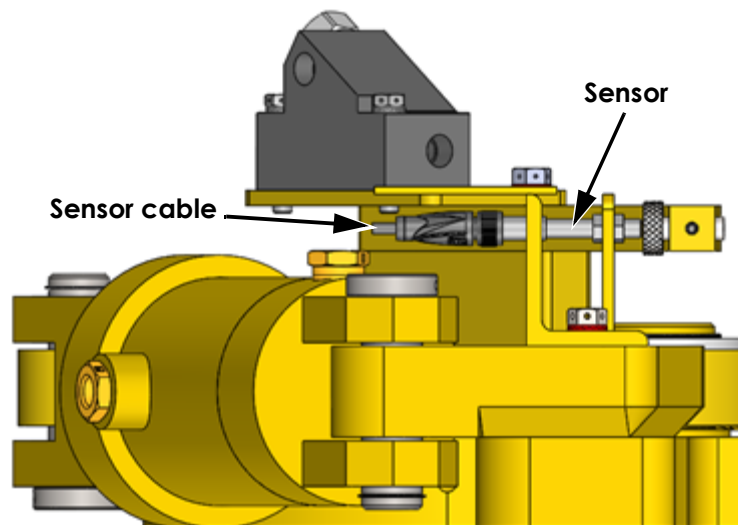

Figure 6: Sensor Cable Installation
- Attach and tighten sensor cable to the back of the sensor as shown in Figure 6.